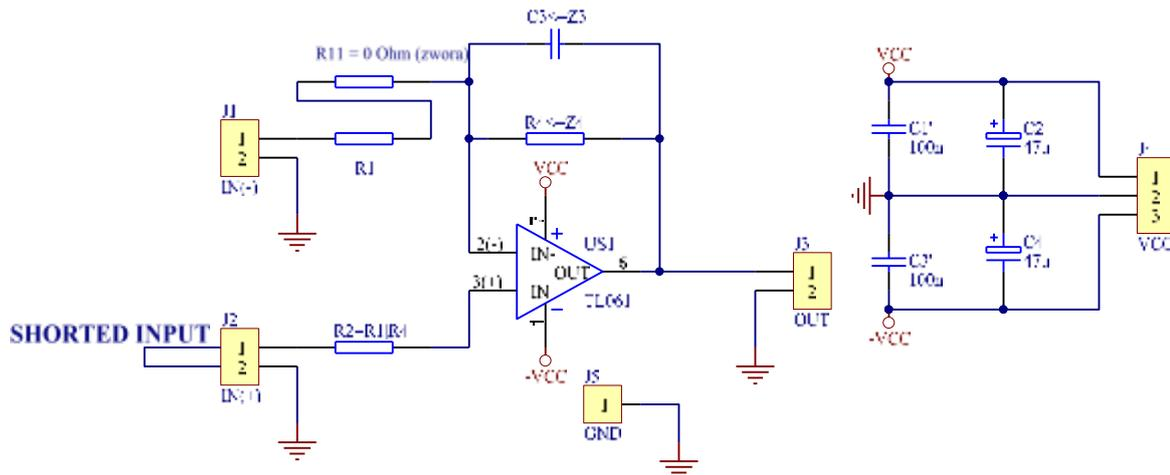

Fig. 2 Inverting amp schematic diagram.
Fig. 2 shows an inverting amplifier circuit implemented in the structure of the circuit from fig
1. Assemble the circuit according to Fig. 2.